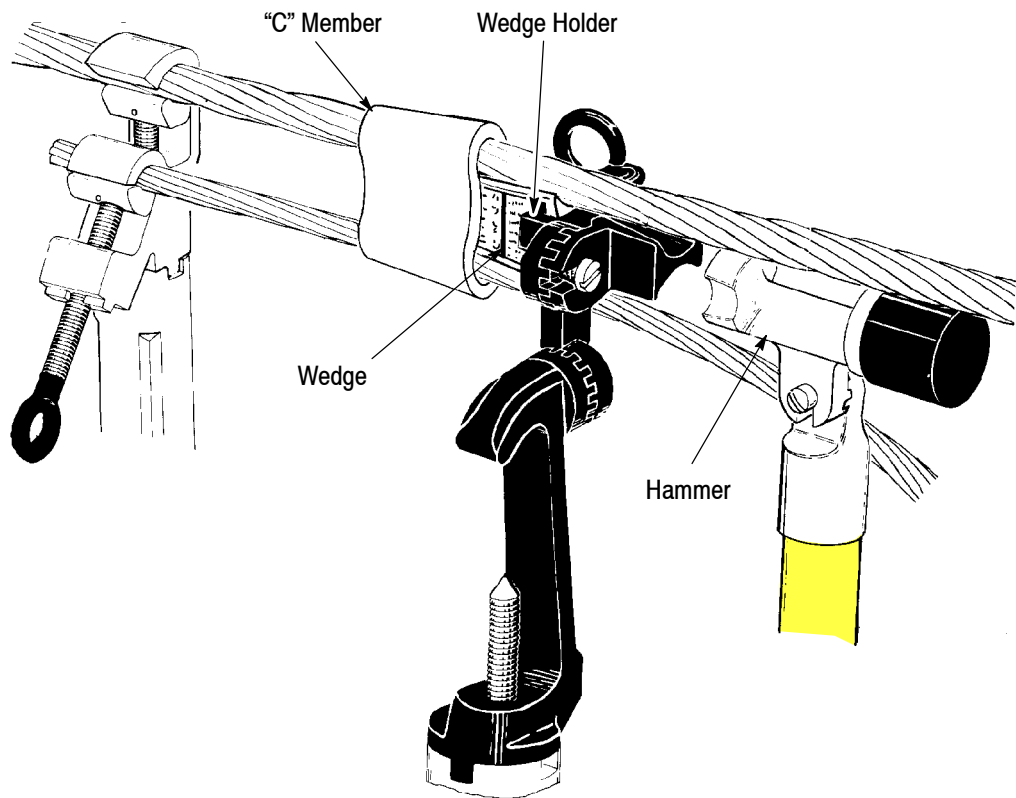

Figure 14
5. Insert wedge between the wires into wide end of "C" member. See Figure 14. Back of the wedge holder may be used to spread wires to ease insertion of wedge. Strike wedge holder sharply to secure wedge temporarily. The tap is now self-supporting.